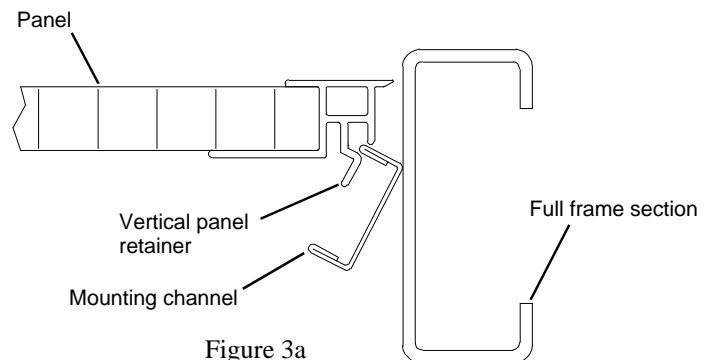

Figure 3a
3. With all panels in place, insert the second Mounting Channel into the **Vertical Panel Retainer**. See **Figure 3a**. Align Frame tabs with the slots on the channel.